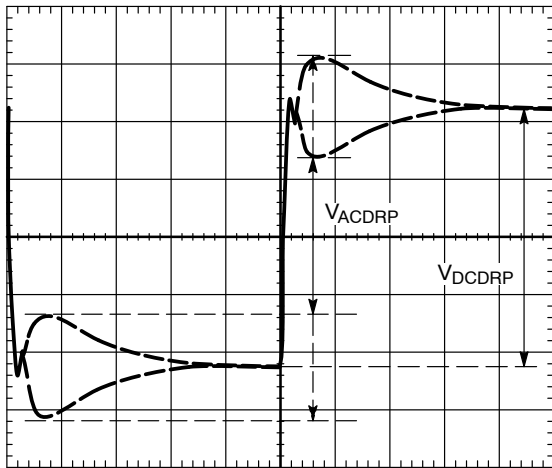

Figure 16. AC Load Line Waveform
14. Measure the output waveform (use dc offset on scope to see the waveform). Try to use a vertical scale of 100 mV/div or finer. This waveform should look similar to Figure 16.
15. Use the horizontal cursors to measure V_{ACDRP} and V_{DCDRP} as shown in Figure 16. Do not measure the undershoot or overshoot that happens immediately after this step.